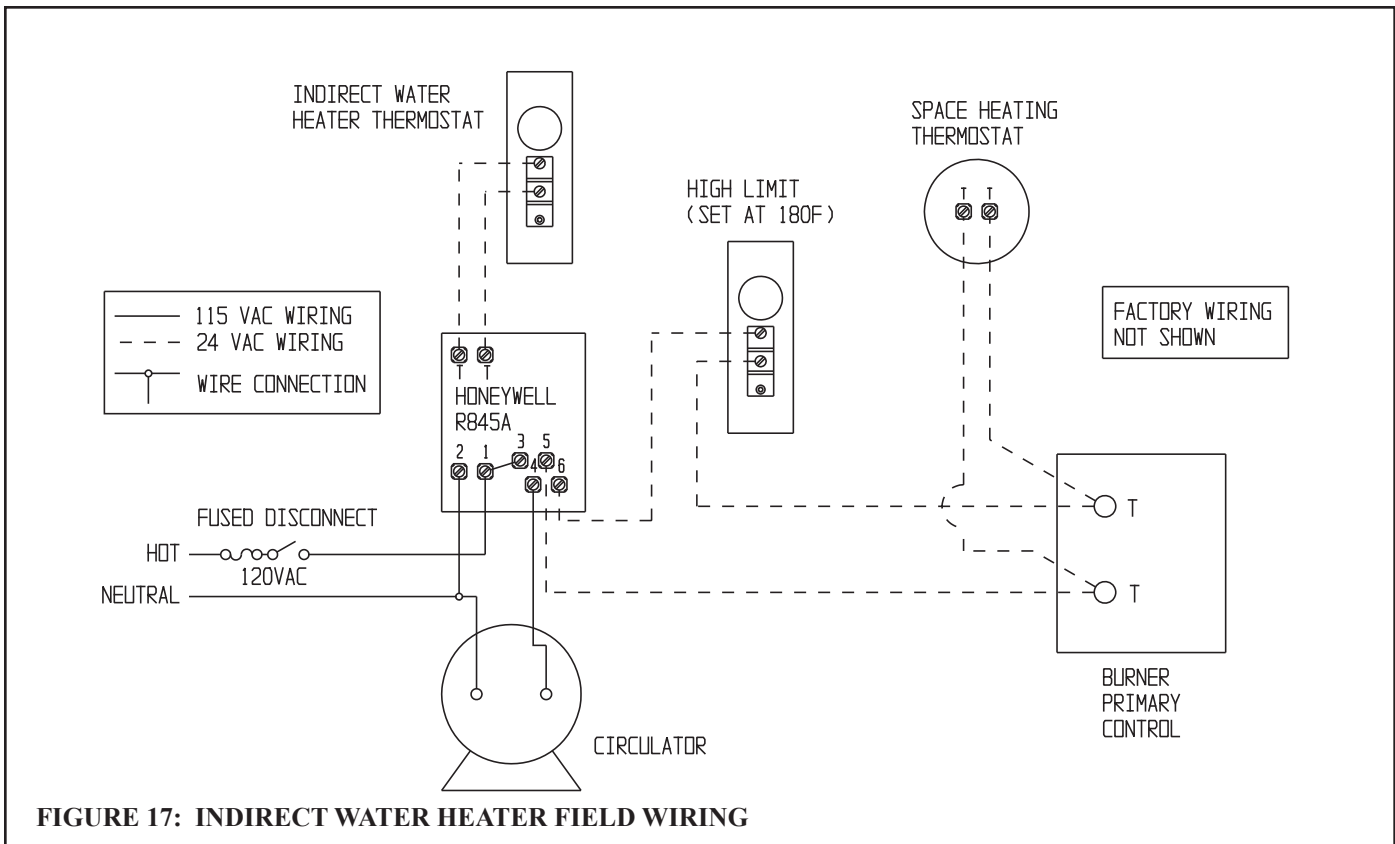

FIGURE 17: INDIRECT WATER HEATER FIELD WIRING
- 1) Circulator - Mount the circulator as shown in Figure 12A. The circulator should be located as low and as close to the boiler as practical. Do not install valves, or other devices having a significant pressure drop, between the boiler and the circulator inlet. All piping between the boiler and the circulator inlet should be 1", regardless of the size of the piping required in the rest of the system. See Figure 17 in Part X for wiring information.
- 4) Boiler Limit Control - Use a SPST break-on-rise temperature limit control such as the Honeywell L4006A. Do not set the limit above 180F as doing so may cause the boiler to steam when there is no call for heat. See Figure 17 for wiring information.
Figure 17 shows field wiring for an indirect water heater. A Honeywell R845A or equivalent DPST relay and transformer is required. The high limit described in Part VIII must also be supplied by the installer. A call for heat from the indirect water heater thermostat will energize the relay making both sets of contacts. One set of these contacts then energizes the circulator. The other set of contacts will make the “T” and “T” contacts on the burner primary control, firing the burner. If the boiler water temperature exceeds the high limit setting of 180F, the high limit will open the “T” - “T” circuit and the burner will shut down.